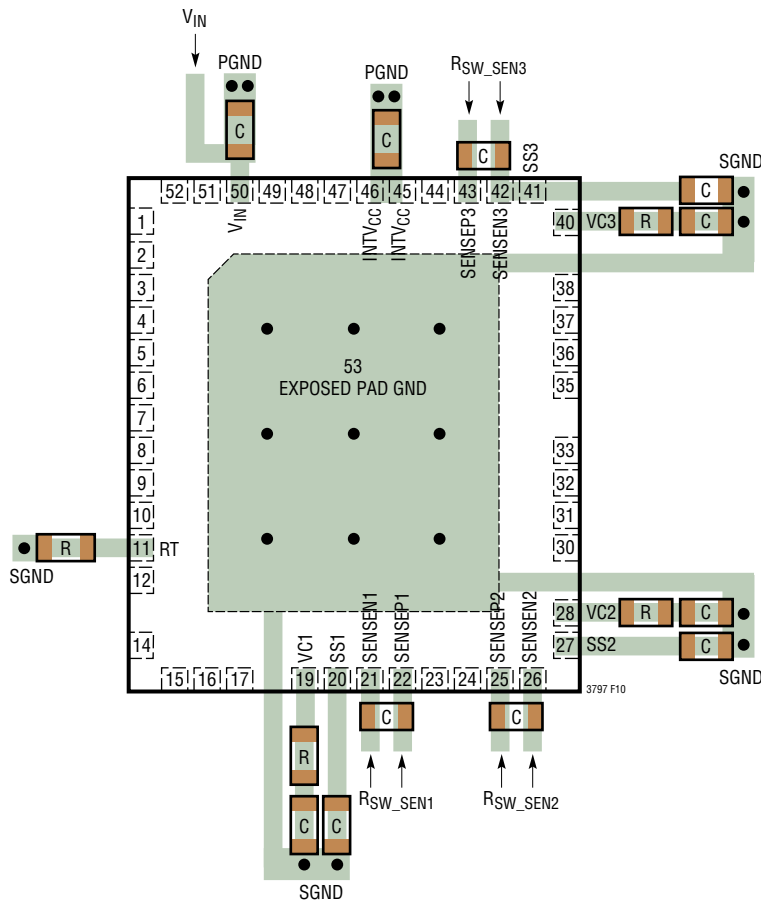

Figure 10. Decoupling Capacitors and Ground Separation
0.1 $\mu$ F ceramic capacitor between each SENSEP pin and the corresponding SENSEN pin. When used, these noise filtering capacitors should be physically located near their respective pins. Figure 10 provides an example of a PCB layout of the LT3797 (QFN), decoupling capacitors, compensation networks and ground separation.